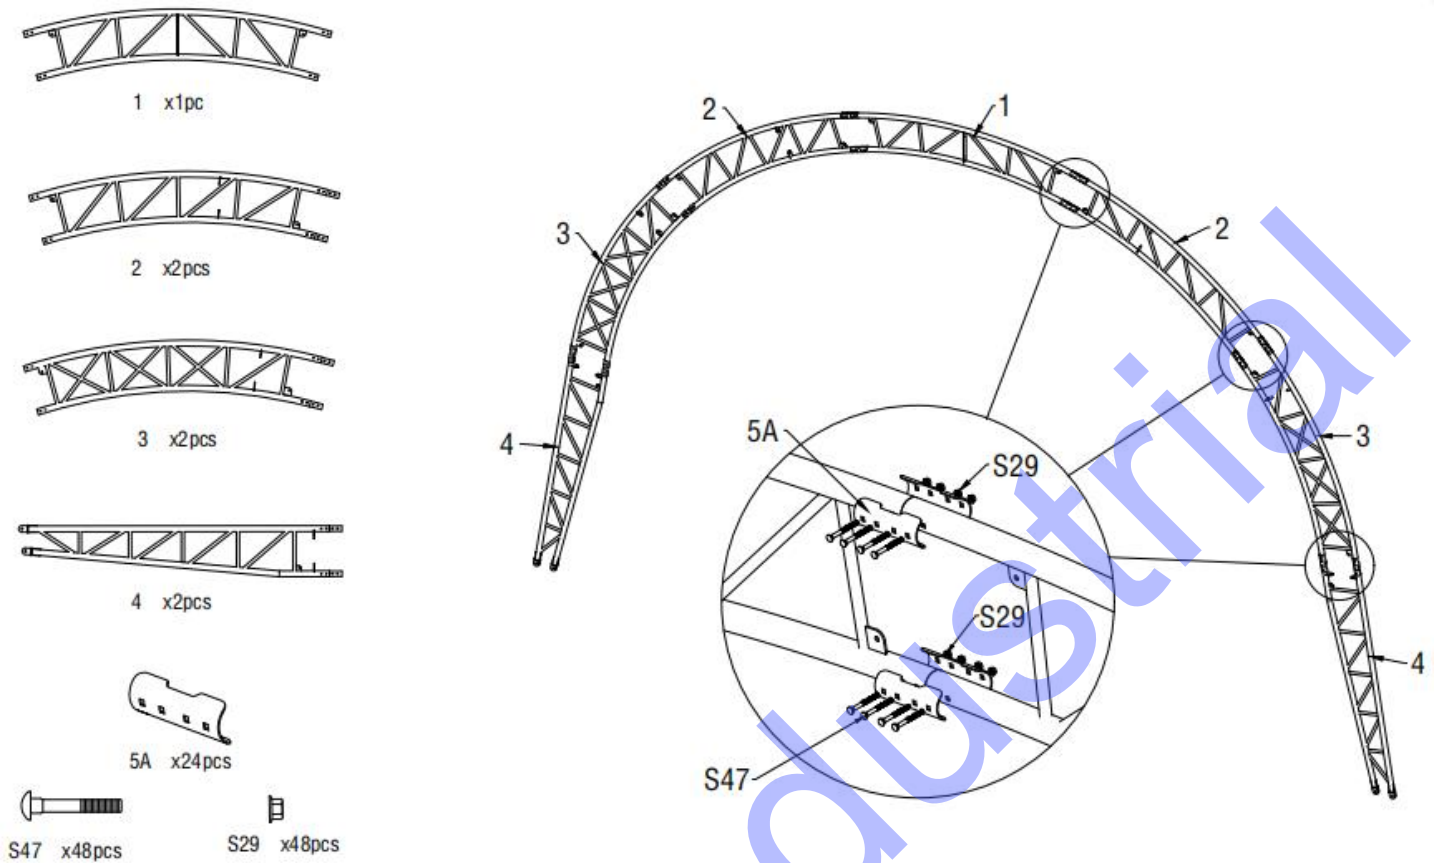

Figure 4
2. As Figure 4 shown to find one Top roof tube (No.1), two Roof upper curving tube (No. 2), two Roof middle curving tube at shoulder (No. 3), two Lower curving tube (4) and assemble every group arch with Carriage bolt M8x70 (No.S47). **DO NOT install the screw on the top of the truss where the fabric will rest.**
**Note:** Top Roof tube, Roof curving tube and Lower curving tube (No.1A,2A,3&4A) which are welded with steel plates for front and back doors are different from the middle arch.(Figure 4)